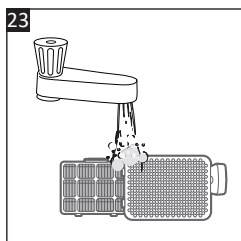

Fig. 23
4. Hold the air outlet filter (23) with the dirty side down and rinse it under the tap with lukewarm water until the water runs clear (**Fig. 23**). Rinse the air outlet cover (24).